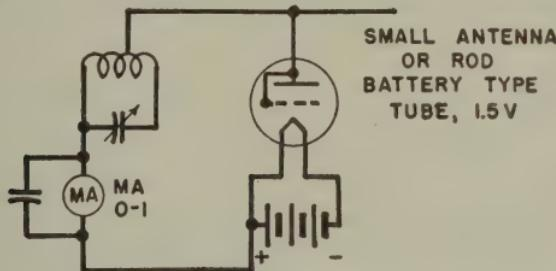

FIG. 4-9.—Simple carrier-shift indicator.
**Ans.** Figure 4-9 illustrates an arrangement for determining carrier-shift of a radiotelephone transmitter.